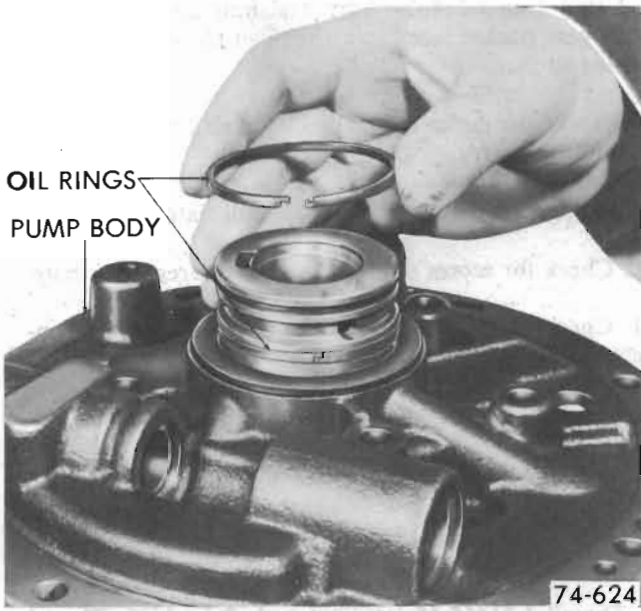

Figure 76-160
9. Remove two hook type oil rings from the pump cover. See Figure 76-160.